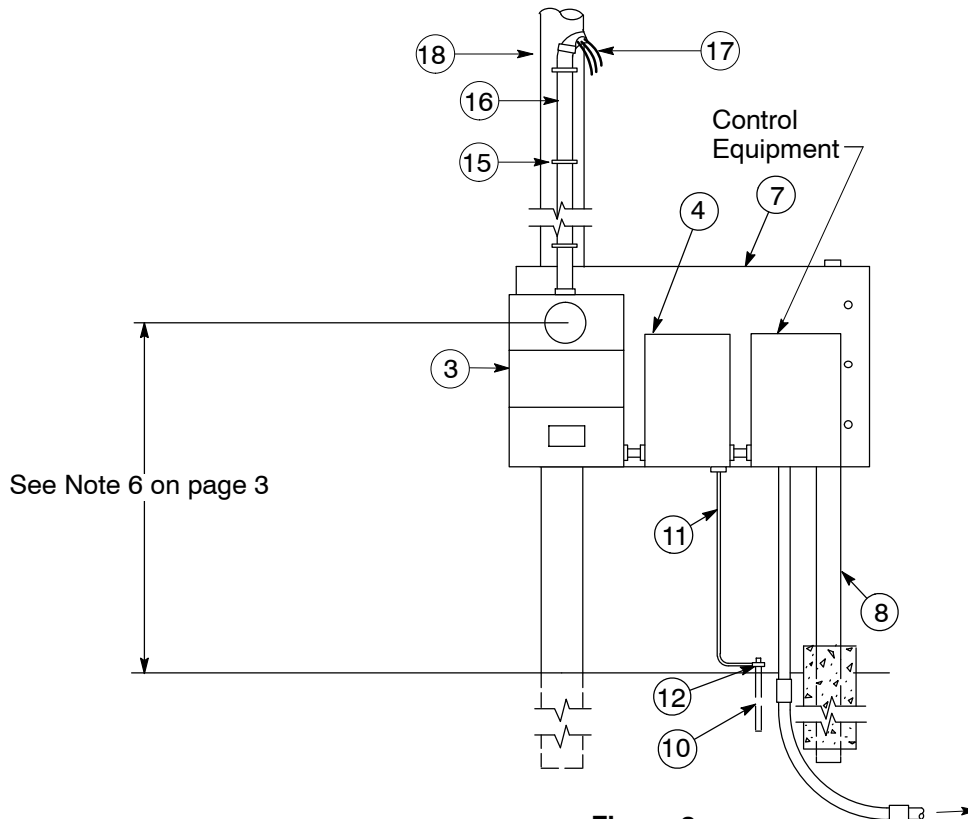
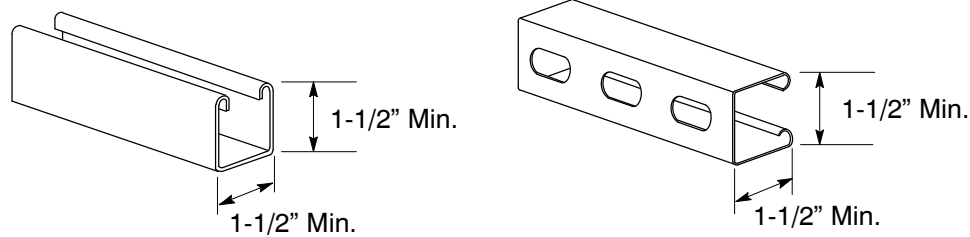

Figure 8
Figure 9
- (1) Structure: All structures must be a minimum length of 48 inches. For structures up to 72 inches long, the minimum combined height of the boards, panel, or struts must be 36 inches. For structures up to 96 inches long, the minimum combined height of the boards, panel, or struts must be 42 inches. For structures with lengths greater than 96 inches, use additional posts. The top of the structure must not exceed 84 inches high from the ground. There must be a minimum of 6 inches of clearance between the ground and all equipment, panels, boards, or struts.
- (2) Boards: Place side by side.
- (3) Panel: One solid sheet.
- (4) Struts: At a minimum, two struts are needed to support each piece of service and metering equipment. It is recommended that one strut be attached towards the top and one strut be attached towards the bottom of the equipment. Add struts for additional equipment with different length dimensions. Use struts with or without boards or panels.
- (a) Strut channel dimensions must be a minimum 1-1/2 inch x 1-1/2 inch. See Figure 9 on Page 7.
- (5) Posts: Use minimum of two posts to support panel-type construction. Add more posts if the construction exceeds the structural dimensions listed in Note 1B(1) on Page 1. If applicable, a PG&E-approved, customer-owned pole can be used as one of the posts. The customer-owned pole must be installed in accordance with Document 025055 and the panel board must be attached to the poles as shown in Figures 8 on Page 5 and Figure 9 on Page 7.